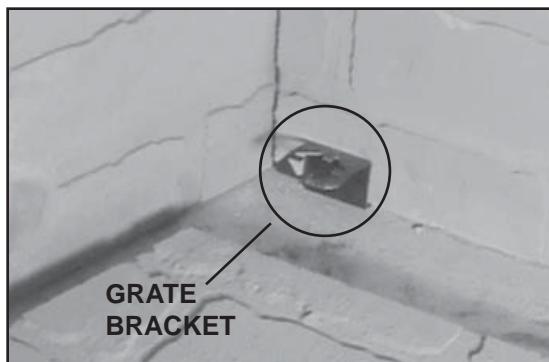

Figure 4.16 Sliding Bottom Refractory Towards Back of Fireplace
- When placing hearth stone into fireplace, slide it back until it fits tightly against back refractory (underneath grate brackets). See Figure 4.16.